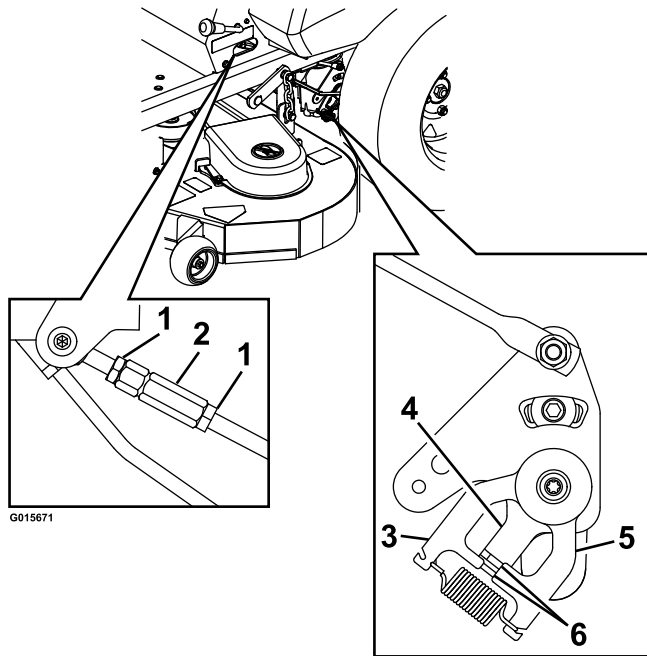

Figure 29
7. Bring the motion control levers into the neutral position. The control plate tabs should touch the return to neutral plates on the hydros. Adjust pump control rod lengths by loosening the nuts and rotating the turnbuckle in the appropriate direction until the wheels slightly creep in reverse (Figure 29). Move the motion control levers to the reverse position and while applying slight pressure to the lever allow the reverse indicator springs to bring the levers back to neutral. The wheels must stop turning or slightly creep in reverse.